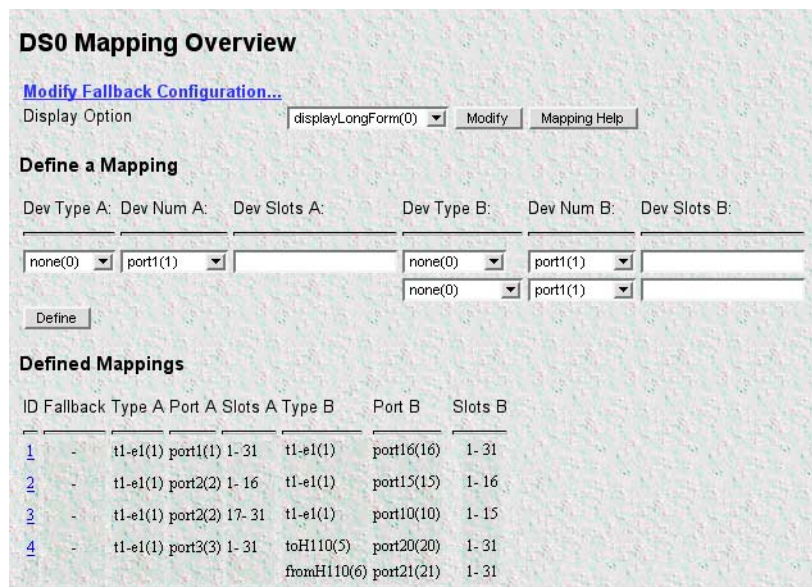

Figure 33. DS0 Mapping Overview window
1. On the Configuration Menu click DS0 Mapping hyperlink. The DS0 Mapping Overview window (see figure 33) displays.